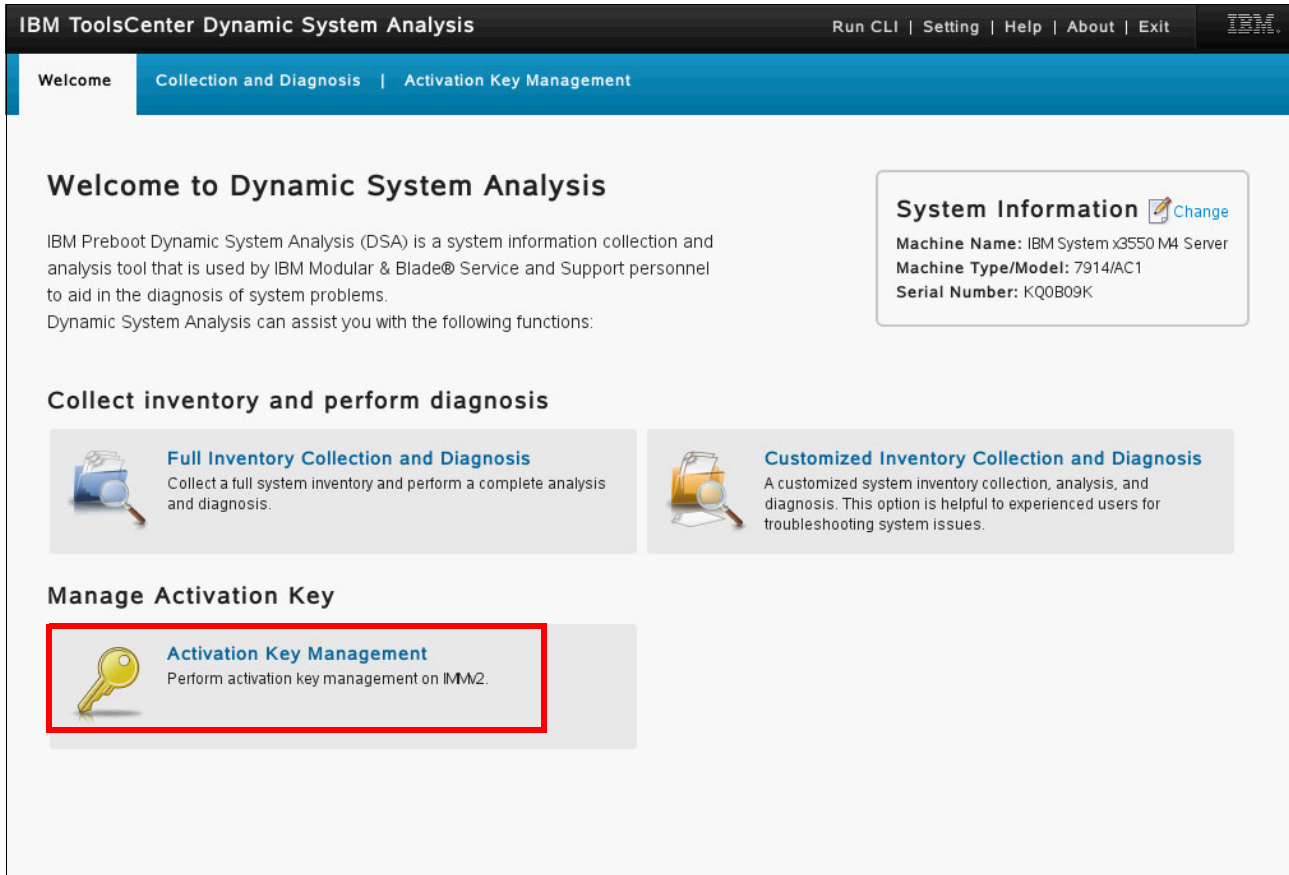

Figure 3-16 Preboot DSA Welcome page
6. The Preboot DSA Welcome page opens, as shown in Figure 3-16. Select **Activation Key Management**.